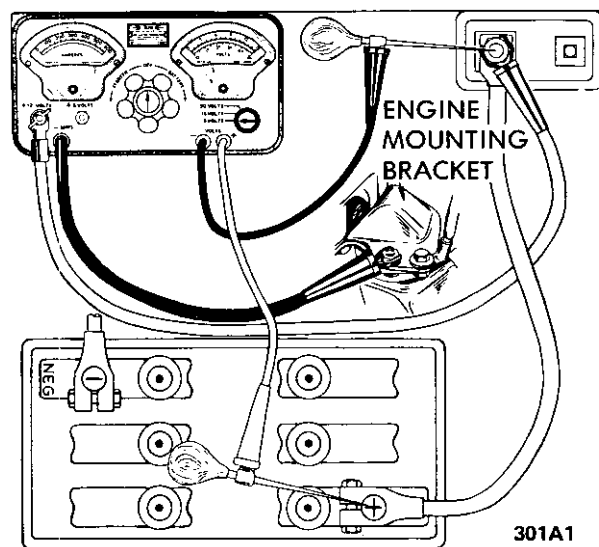

Figure 1A-1 Battery Cable Test Connections
2. Connect ammeter positive lead to post on starting motor. Connect ammeter negative lead to one side of rheostat and connect other side of rheostat to ground on engine, preferably at point where battery ground strap is attached. In the instrument shown in Figure 1A-1, the ammeter and rheostat are connected in series inside the case.
3. Connect voltmeter negative lead to post on starting motor. Use prod with voltmeter lead, if necessary, to insure direct contact with the terminal stud. **Do not connect to the ammeter lead clip.** Attach a prod to voltmeter position lead and apply the prod to center of battery positive post (Figure 1A-1.) Make sure that clips of voltmeter leads have clean metal contact with prods.